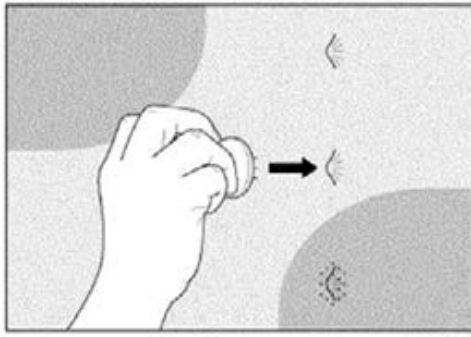

Figure 10. Using MPP-1
4. Grip the MPP-1 as shown and strike the area around the rivet once. Do NOT twist the tool. See Figure 10.